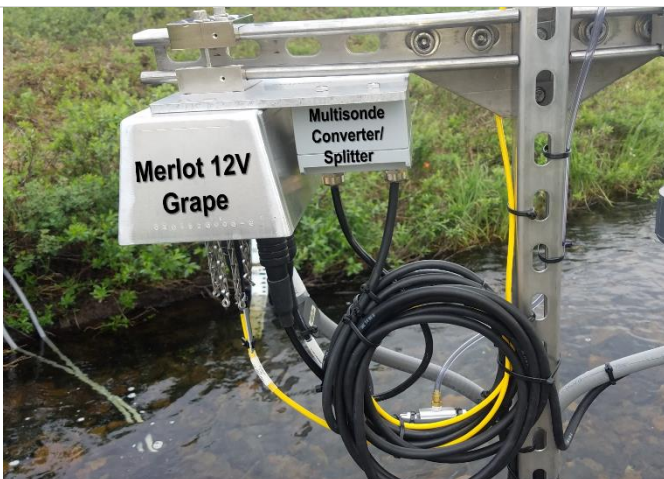

Figure 142. Multisonde Merlot Grape in Grape Shield with Converter/Splitter Box
**STEP 6** | If not already complete, remove the other sensor connections from the 12V Merlot Grape and remove the Grape for Sensor Refresh (Figure 142). The converter/splitter box remains on the anchor unless removing the sensor for winterization. If moving for winterization, remove the entire assembly that mounts to the Unistrut.